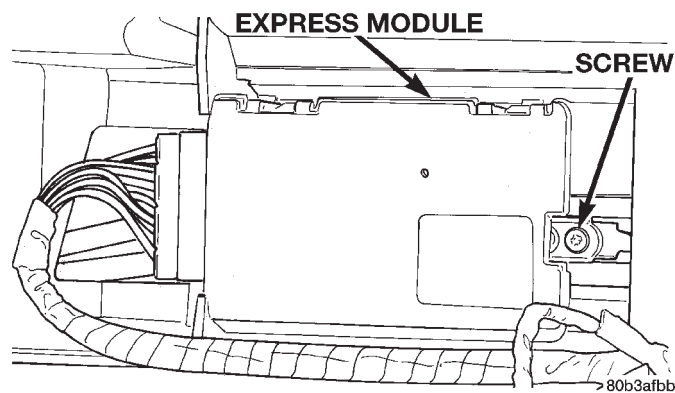

Fig. 5 Sunroof Drive Motor and Express Module
(4) Remove headliner as necessary to gain access to sunroof drive motor. Refer to Headliner Removal and Installation for proper procedures.
(5) Disconnect the drive motor wire harness connectors (Fig. 5).
(6) Remove drive motor fasteners and remove motor from the sunroof housing .